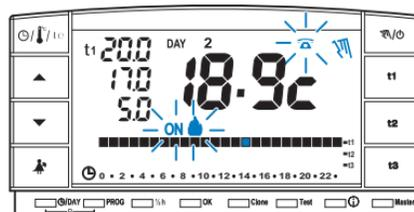

fig. 61
**Closing the contact:** when operating with programs, temporary/permanent manual or P 04 Holiday program, the chronothermostat is in **permanent manual mode** with **t1 comfort** temperature. The blinking symbols and fixed appear on the display to indicate forcing (fig. 61).